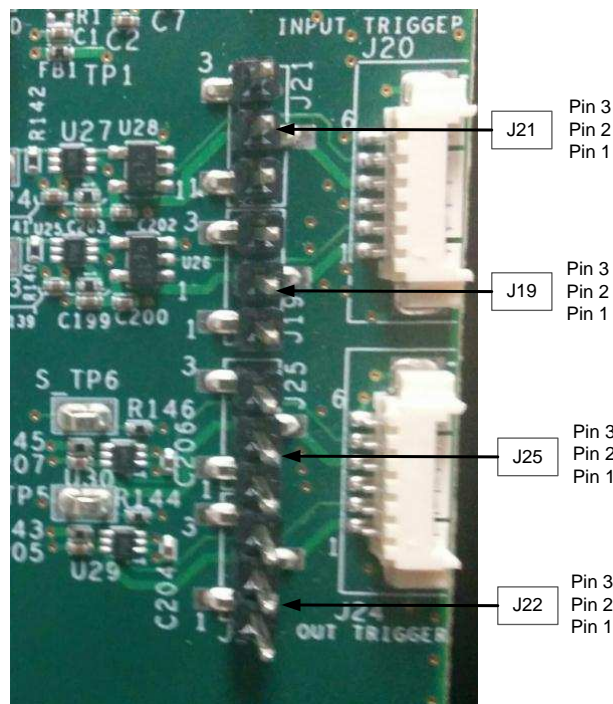

Figure 1-8. DLP LightCrafter 6500 Trigger Voltage Level Selectors
- J19 – Trigger 1 input voltage level selectors. See Figure 1-8.
- J21 – Trigger 2 input voltage level selectors. See Figure 1-8.
- J22 – Trigger output voltage level selectors. See Figure 1-8.
- J25 – Trigger output voltage level selectors. See Figure 1-8.
Both input and output triggers have voltage level selectors. Use J19, J21, J22, and J25 to select the voltage as shown in Figure 1-8. If no voltage is selected, then the onboard logic will not be functional and any outgoing or incoming signals will not available.